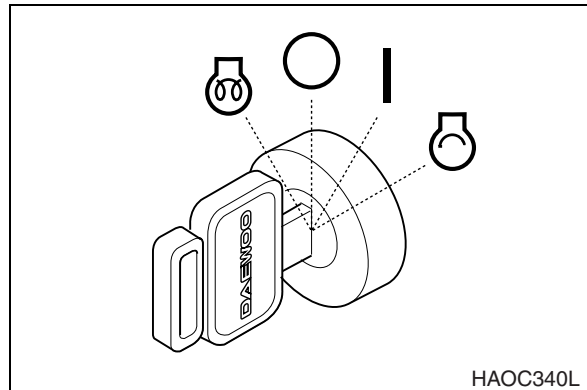

Figure 7
10. Shut down engine by turning key to "O" (OFF) position (Figure 7).